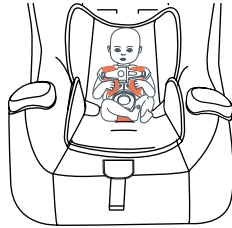

Fig. 45a
- NEVER** use pillow or harness covers in the Low Birth Weight Harness Routing (Fig. 45a).